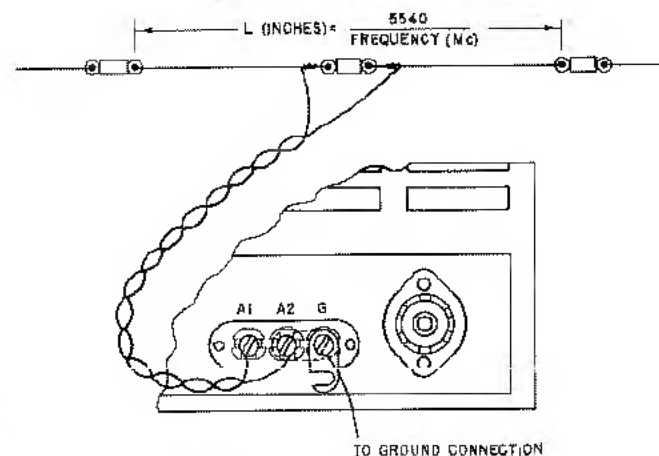

Figure 3. Doublet Antenna Installation.
**A. Single Wire Antenna.**—When using a single wire antenna installation, connect a jumper between the antenna terminal A2 and G. Then connect a single wire of about 50 to 75 feet (including lead-in) to terminal A1. Use #14 gauge copper wire or heavier for best results. Erect the antenna as high and free from surrounding objects as possible. This type of antenna works well where the signal to noise ratio is relatively high and a more elaborate installation is not practical. Refer to Fig. 3.
(1) To determine the proper length of the doublet antenna in feet: